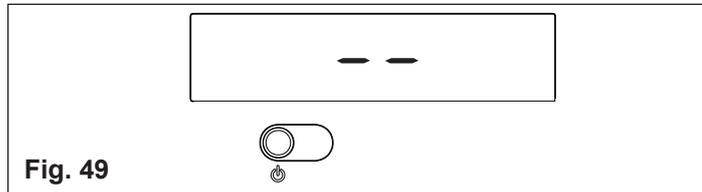
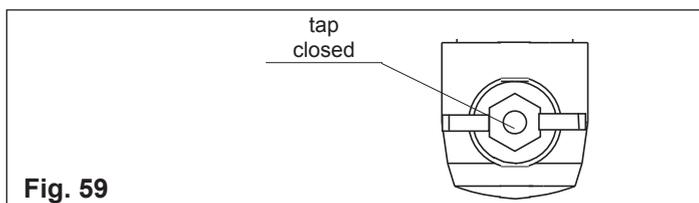

Fig. 49
Fig. 59
- ⚠ The boiler turns on in the status it was in before it was switched off: if the boiler was in the winter mode when it was switched off, it will turn on again in the winter mode. If it was in the OFF mode, the display will show two segments in the central area (fig. 49). Press the button to enable operation.
For brief absences press the  button to switch off the boiler. The display will show two segments in the central area (fig. 49). When the boiler remains powered with the gas tap open, it is protected by the following systems:
For prolonged absences press the  button to switch off the boiler (fig. 49). The display will show two segments in the central area. Turn the main switch to "off". Turn off the gas tap under the boiler by turning it clockwise (fig. 59).